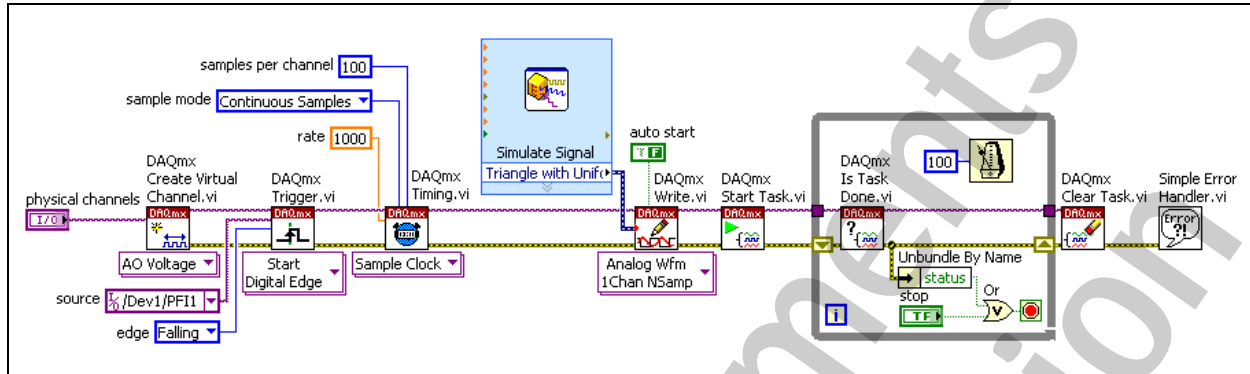

Figure 4-6. Triggered Continuous Buffered Generation VI Block Diagram
- ❑ Modify the block diagram, as shown in Figure 4-6, using the following items: